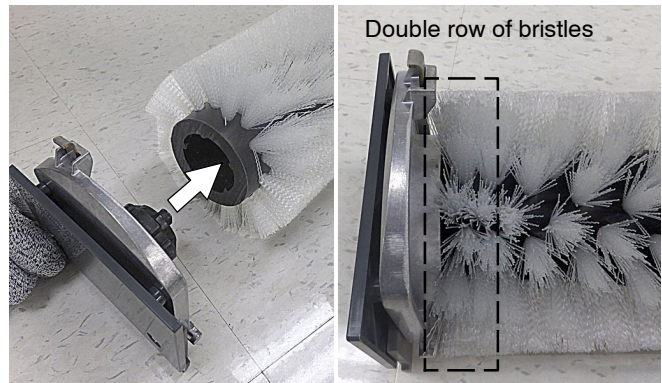

FIG. 17
3. Attach idler plate to brush end with double row of bristles (Figure 17).